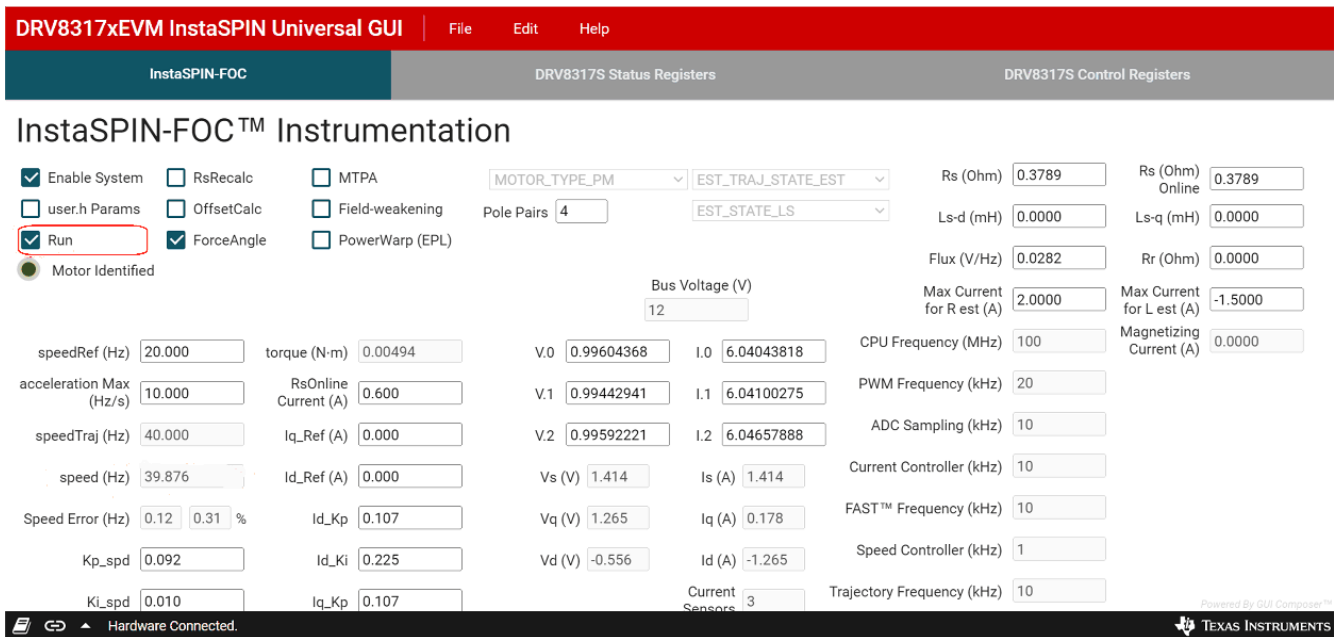

Figure 6-2. C2000 InstaSPIN Universal GUI Running motor identification
2. Check the "Run" box to begin the motor identification algorithm as shown in Figure 6-2. The motor will begin to spin and stop as it goes through many states to calculate and identify useful motor parameters for sensorless Field-oriented control. This should take no more than a few minutes.